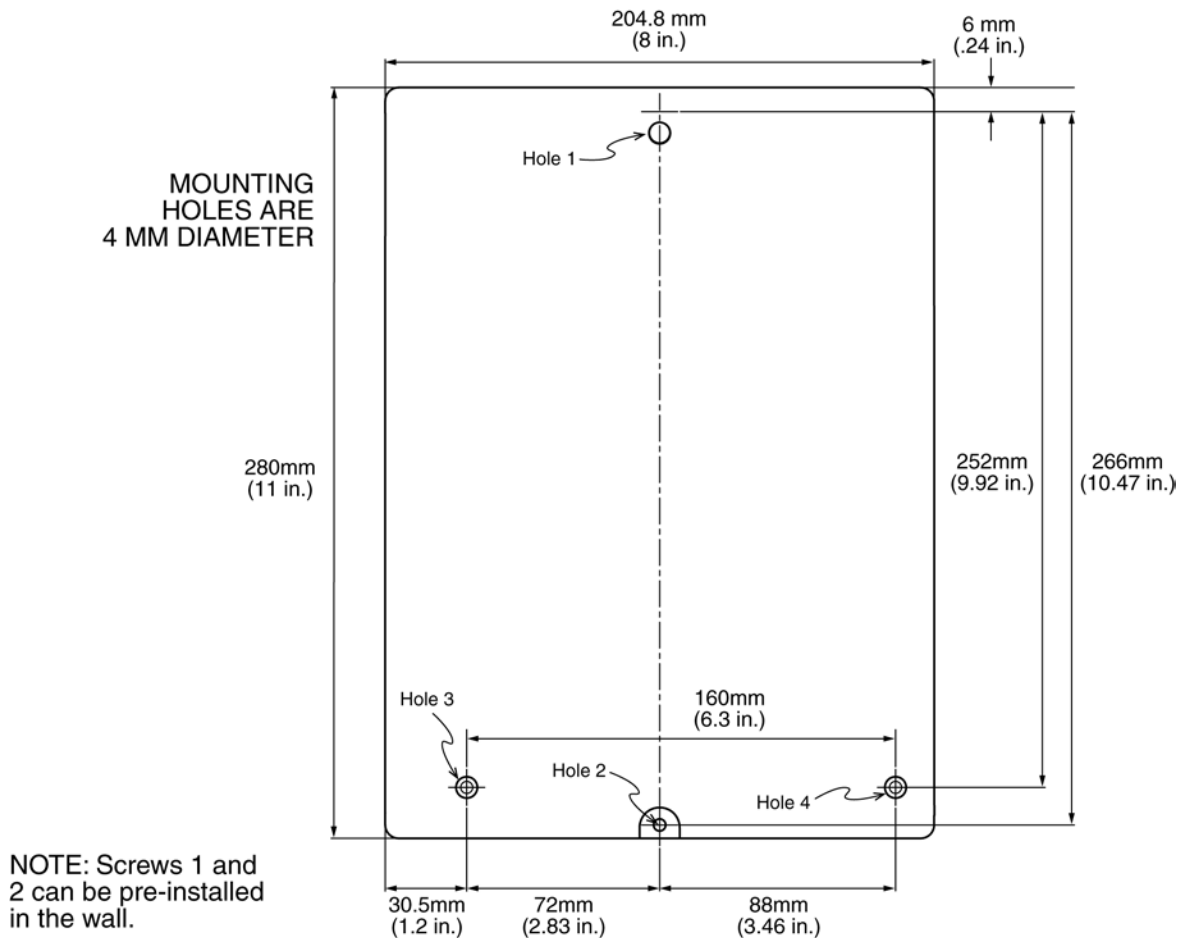

Figure 7-10: Mounting Hole Dimensions
5. Position the FAAST FLEX in place over the mounting screw in Hole 1 (Figure 7-10) , and slide it down into place.